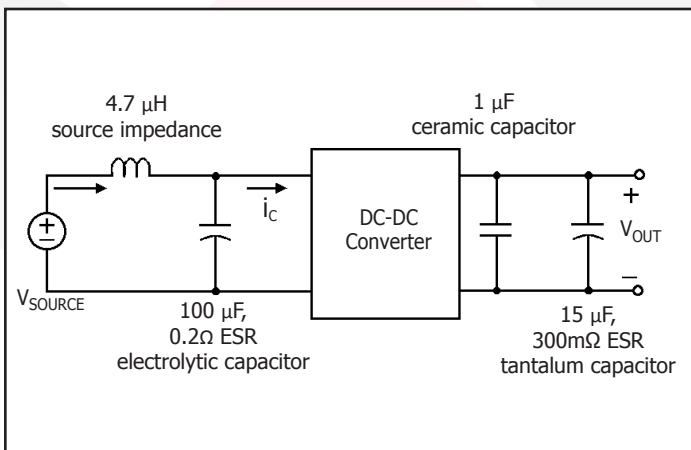

Figure 17: Test set-up diagram showing measurement points for Input Terminal Ripple Current (Figure 9) and Output Voltage Ripple (Figure 10).
**Figure 9:** Input terminal current ripple,  $i_C$ , at full rated output current and nominal input voltage with SynQor MCOTS filter module (1 A/div). Bandwidth: 20MHz. See Figure 17.
**Figure 10:** Output voltage ripple, Vout, at nominal input voltage and rated load current (50 mV/div). Load capacitance: 1µF ceramic capacitor and 15µF tantalum capacitor. Bandwidth: 20 MHz. See Figure 17.